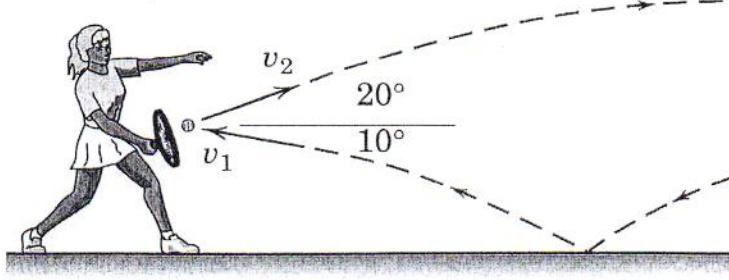

Fig. Q9
9. A tennis player strikes the tennis ball with her racket while the ball is still rising (Fig. Q9). The ball speed before impact with the racket is  $v_1 = 15 \text{ m/s}$  and after impact is speed is  $v_2 = 22 \text{ m/s}$ , with directions as shown in the figure. If the 60 gram ball is in contact with the racket for 0.05 s, determine the magnitude of the average force  $R$  exerted by the racket on the ball. Find the angle  $\beta$  made by  $R$  with the horizontal.